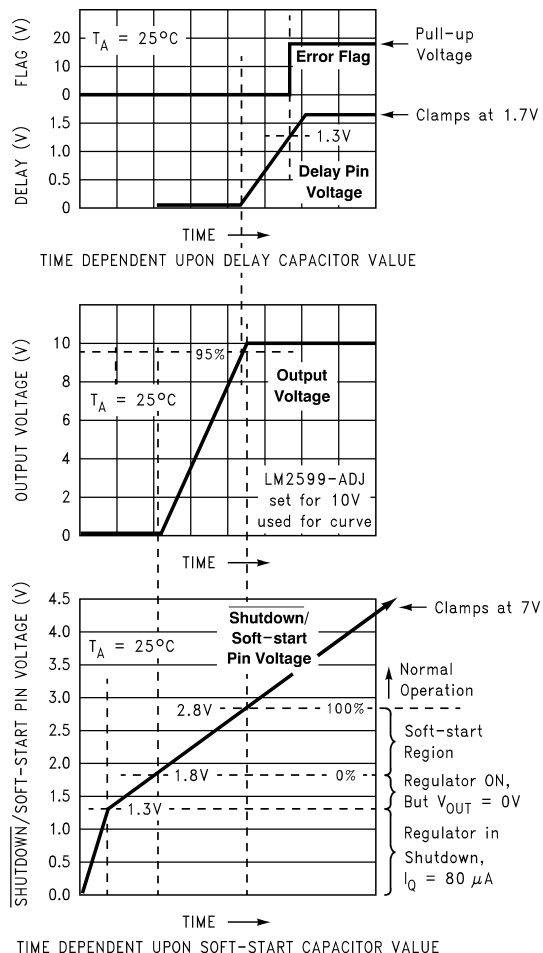
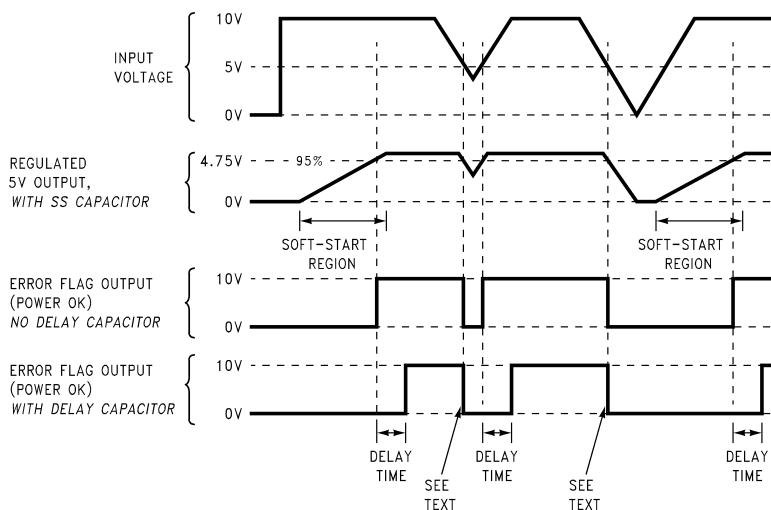

Figure 28. Soft-Start, Delay, Error, Output
Figure 29. Timing Diagram for 5-V Output
The capacitor on this pin provides the regulator with a soft-start feature (slow start-up). When the DC input voltage is first applied to the regulator, or when the Shutdown/Soft-start pin is allowed to go high, a constant current (approximately 5 μ A) begins charging this capacitor). As the capacitor voltage rises, the regulator goes through four operating regions (see the bottom curve in Figure 28):
3. Soft-start Region: When the $\overline{\text{SD/SS}}$ pin voltage is between 1.8 V and 2.8 V (at 25°C), the regulator is in a soft-start condition. The switch (Pin 2) duty cycle initially starts out very low, with narrow pulses and gradually get wider as the capacitor $\overline{\text{SD/SS}}$ pin ramps up towards 2.8 V. As the duty cycle increases, the output voltage also increases at a controlled ramp up (see the center curve in Figure 28). The input supply current requirement also starts out at a low level for the narrow pulses and ramp up in a controlled manner. This is a very useful feature in some switcher topologies that require large start-up currents (such as the inverting configuration) which can load down the input power supply.
The lower curve shown in Figure 28 shows the soft-start region from 0% to 100%. This is not the duty cycle percentage, but the output voltage percentage. Also, the soft-start voltage range has a negative temperature coefficient associated with it. See the soft-start section in Electrical Characteristics – All Output Voltage Versions.
This capacitor provides delay for the error flag output (see Figure 28 and Figure 29). A capacitor on this pin provides a time delay between the time the regulated output voltage (when it is increasing in value) reaches 95% of the nominal output voltage, and the time the error flag output goes high. A 3- μA constant current from the delay pin charges the delay capacitor resulting in a voltage ramp. When this voltage reaches a threshold of approximately 1.3 V, the open-collector error flag output (or power OK) goes high. This signal can be used to indicate that the regulated output has reached the correct voltage and has stabilized.